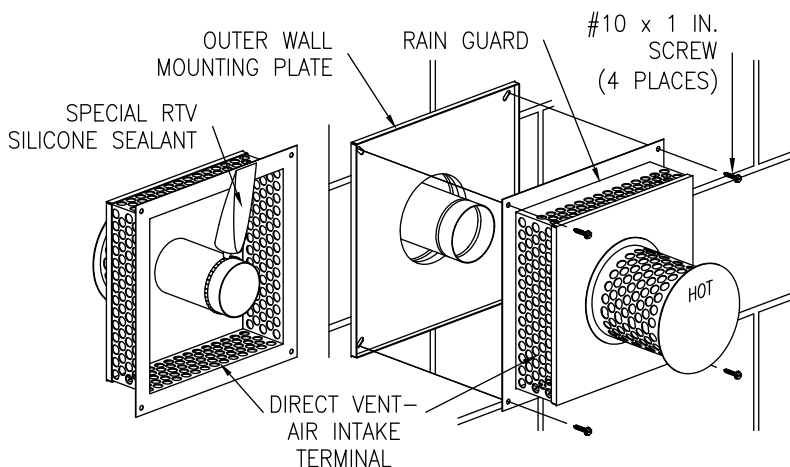

Figure 10
10. Using the supplied special RTV silicone sealant, apply a bead one (1) inch (2.5 cm) from the end of the three (3) inch (7.6 cm) diameter tube that is part of the vent-air intake terminal. Slide the direct vent-air intake terminal into the three (3) inch (7.6 cm) diameter telescopic tube that extends through the wall and position it so it is flush with the outer wall mount plate. Make sure that the rain guard and the word "HOT" on the end of the direct vent-air intake terminal are oriented properly. Secure the direct vent-air intake terminal to the outer wall mount plate and wall with four (4) #10 x 1 inch screws (supplied) (See Figure 10). Note: Certain construction of walls may require the use of different type of anchoring means than supplied. **DO NOT** modify the direct vent-air intake terminal or outer wall mount plate.